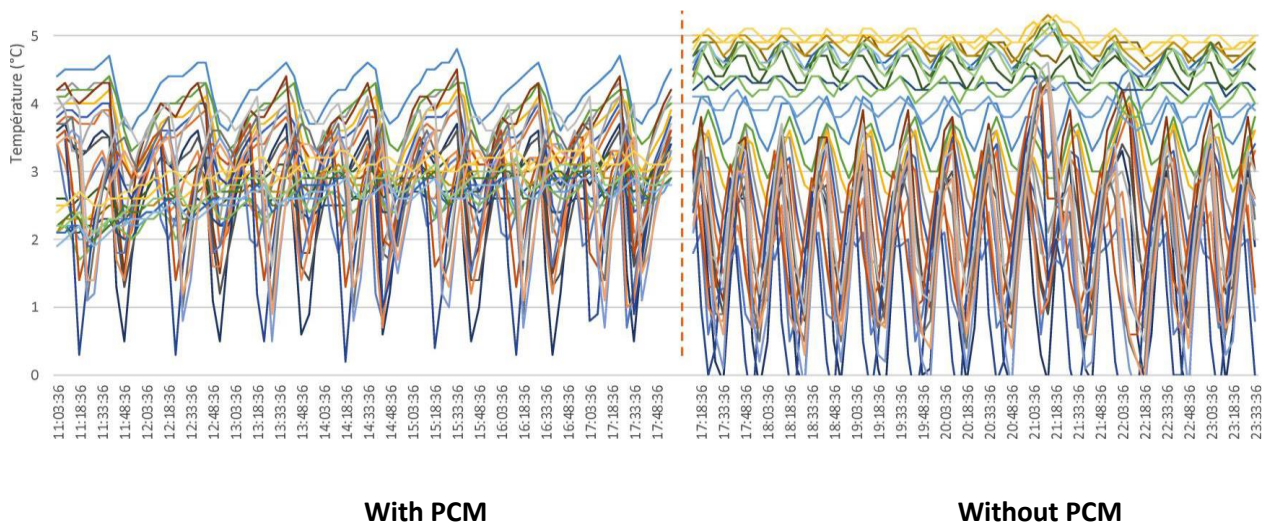

Figure 6: Cold-Room temperature profile at 30 different points with and without PCM.
- The measurement at 30 different points demonstrates the effectiveness of the TESS system in limiting temperature fluctuations as seen in Fig. 6.